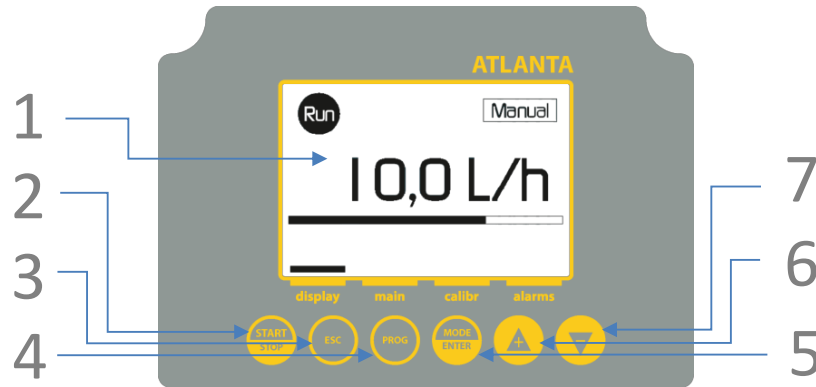
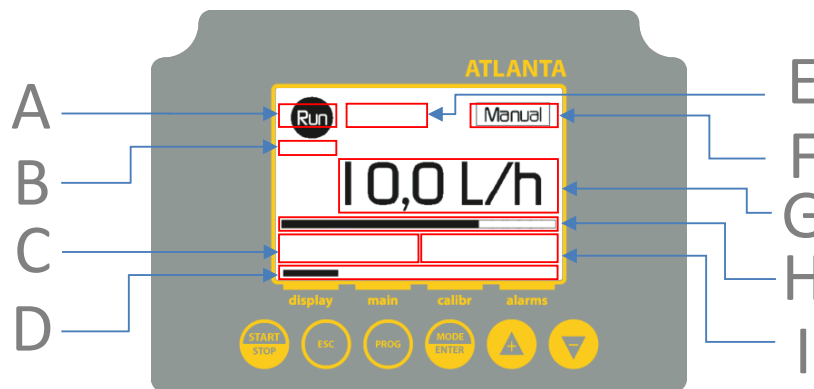

Figure 1 – Electronic Control Unit Interface
Figure 2 – Graphic Display - Subdivision Areas
See **ANNEX B: INSTALLATION SUGGESTIONS TABLE** for fig. 1 – 13.
- Install pipe as short as possible (fig. 1) and avoid tortuous paths (fig. 2)